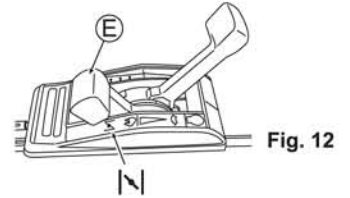

Fig. 12
3. Set Throttle lever (E) to Choking "N". (See Fig. 12) (The engine can start by setting the lever at "S" when it is warm.)